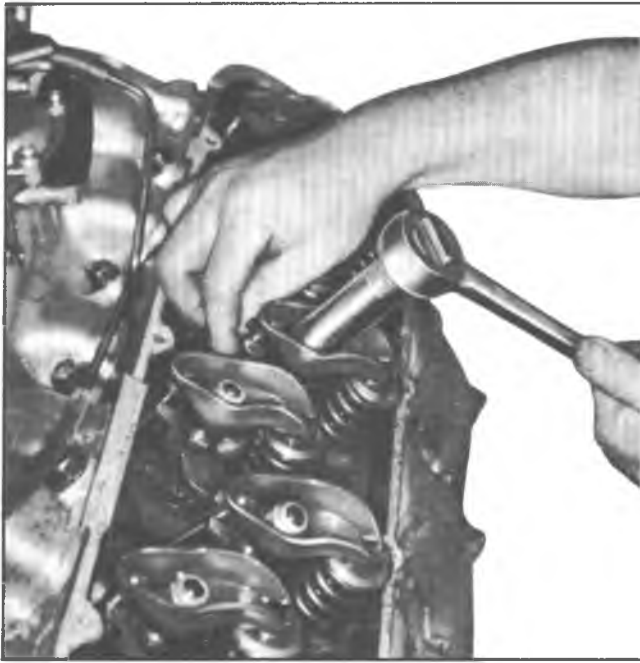

Fig. 22—Valve Adjustment (V8 Engine)
- b. Valve adjustment is made by backing off the adjusting nut (rocker arm stud nut) until there is play in the push rod and then tighten nut to just remove all push rod to rocker arm clearance. This may be determined by rotating push rod with fingers as the nut is tightened (fig. 22). When push rod does not readily move in relation to the rocker arm, the clearance has been eliminated. The adjusting nut should then be tightened an additional 1 turn to place the